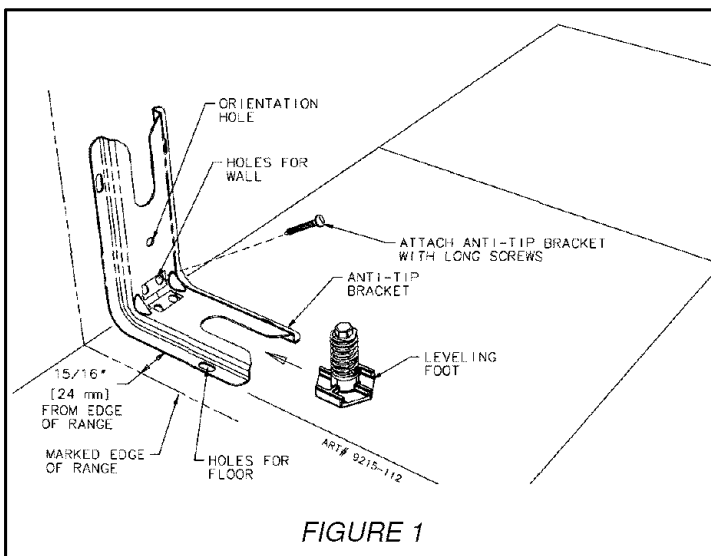

FIGURE 1
## STEP 1 - Locating The Bracket (see figure 1)
- Place the BRACKET 15/16" from the marked "EDGE" toward center of opening and against the back wall as shown in figure 1, with orientation hole against wall.
- Use the bracket as a template and mark the required holes, as shown in figure 1 for the type of construction you will be using.
- Floor: Locate the center of the two holes identified in figure 1 as "HOLES FOR FLOOR". Drill a 1/8" pilot hole in the center of each hole (a nail or awl may be used if a drill is not available). Secure the ANTI-TIP bracket to the floor with the two screws provided. Proceed to STEP 3.
- Wall: Locate the center of the two holes identified in figure 1 as "HOLES FOR WALL". Drill an angled
- Suitable screws for concrete construction can be obtained at a hardware store. Drill the required size hole for the screws obtained into the concrete at the center of the holes identified in figure 1 as "HOLES FOR FLOOR". Secure the ANTI-TIP bracket to the floor. Proceed to STEP 3.